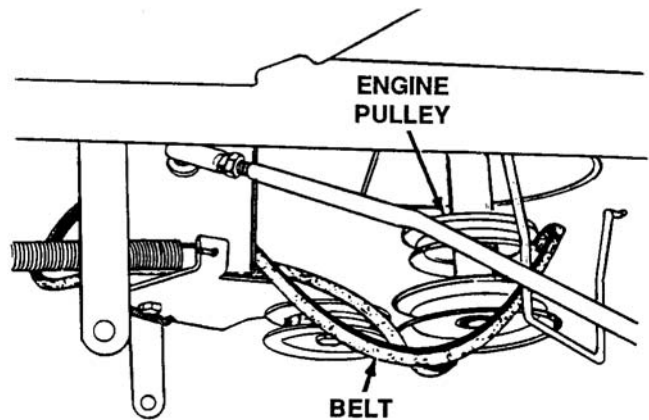

Figure 4-75. Belt Removal From Engine Pulley
6. Slip belt off the engine pulley. See Figure 4-75.